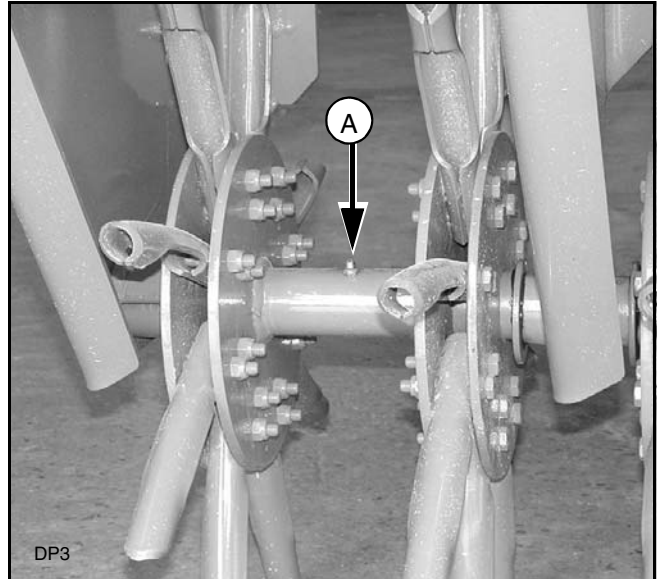

Figure 4 . Lubrication Points
1. Lubricate grease fittings (A, Figure 4), every 8 hours of operation.